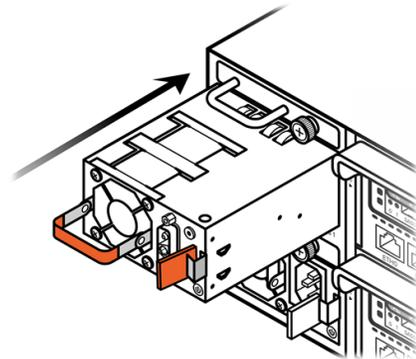

Figure 2-6. Installing the PSU
1. Align the replacement PSU with the chassis bay and slide it in completely. See Figure 2-6.